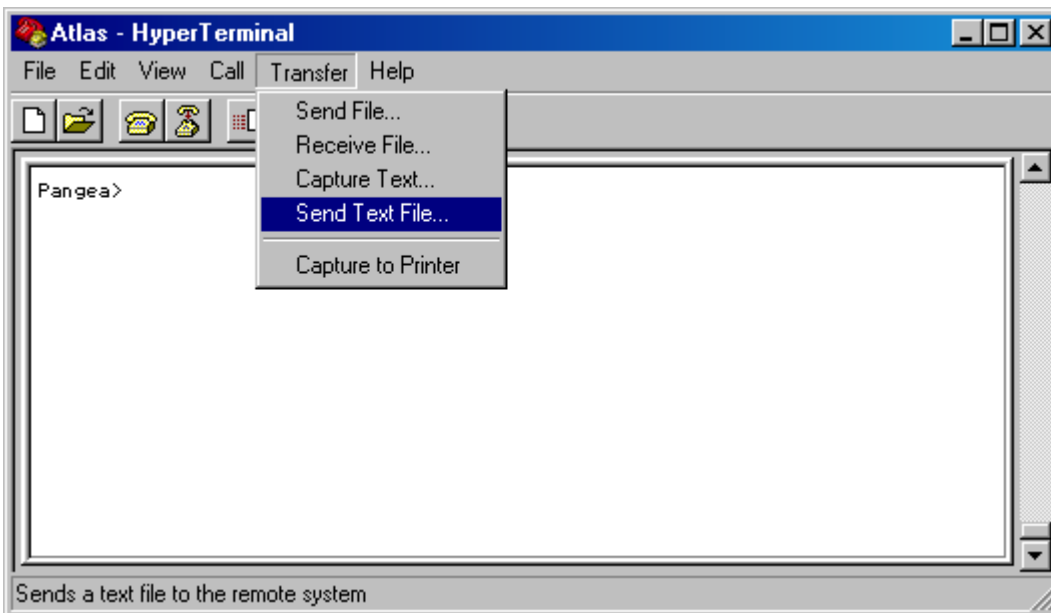

Figure 2-8. Choosing “Send Text File” in HyperTerminal.
5. Scroll over to **“Transfer”** and then scroll down and choose **“Send Text File”**. See example in Figure 2-8.